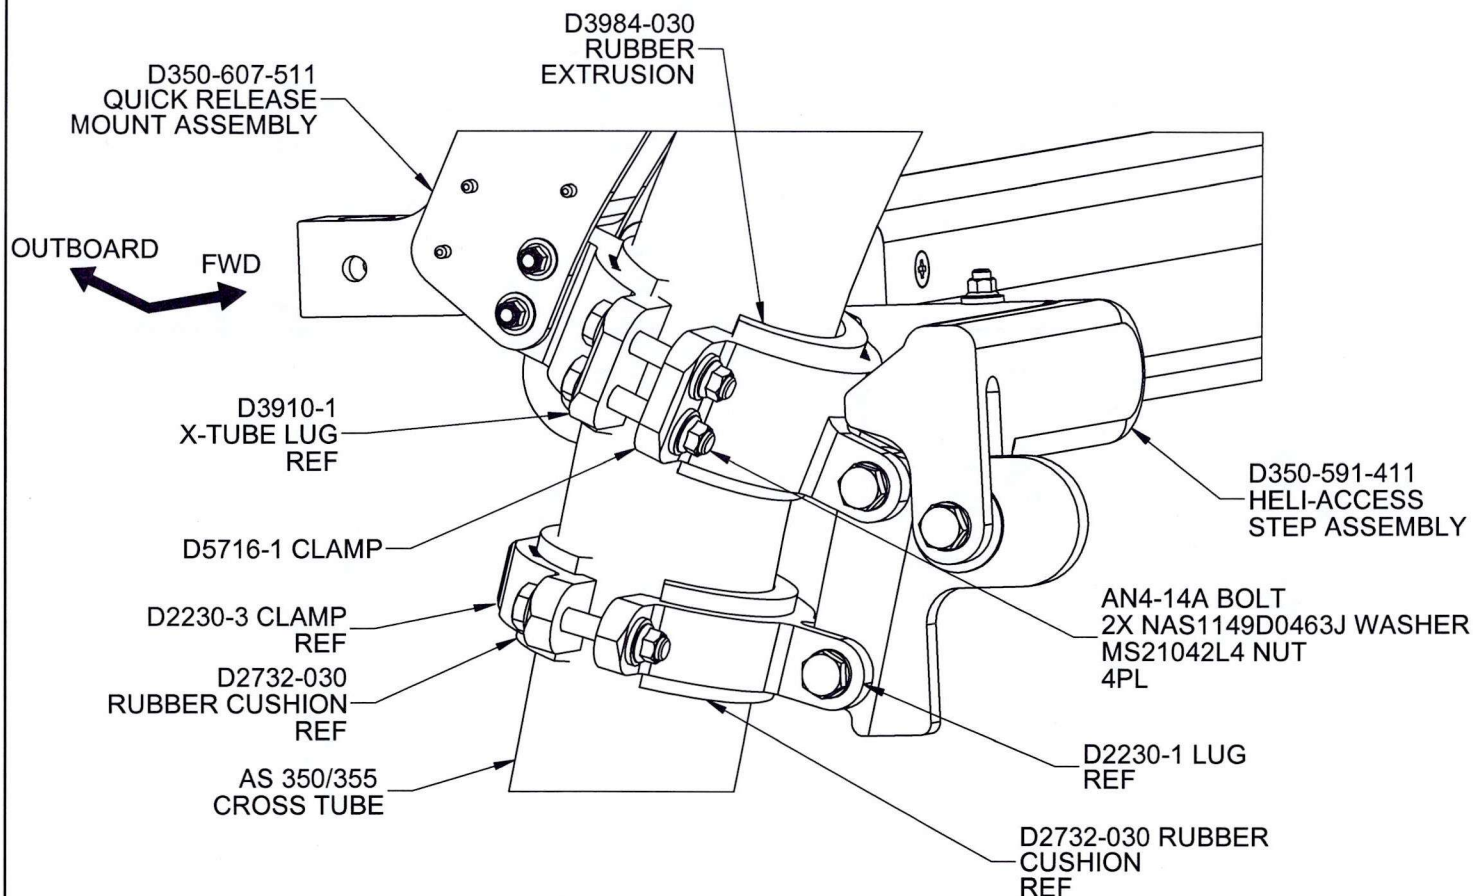

Figure 1 - D5716-1 Clamp Installation
2.1 Install the D350-607-411/-511 Quick Release Basket Mounting Kit per D350-607-2/-3/-5 with the exception of the lower D3910-3/-5/-7 X-Tube Lug on the forward crosstube. In place of the D3910-3/-5/-7 X-Tube Lug, install the D5716-1 Clamp to mate with the D3910-1 X-Tube Lug using the D3984-030 rubber cushion, AN4-14A bolts, NAS1149D0463J washers and MS21042L4 nuts as shown in Figure 1.
2.3 Once all components have been loosely installed per Figure 1, adjust the position of all clamps so that the basket and step have been leveled. Once satisfied with the position of the basket and step, torque all fasteners per D350-591 and D350-607-2/-3/-5 as applicable.